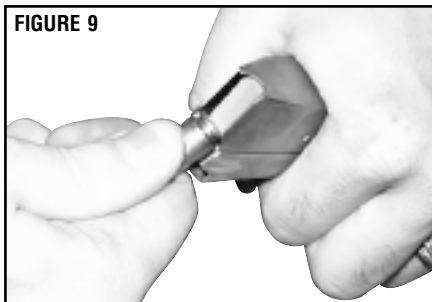

FIGURE 9
- Load the magazine by pressing a cartridge head (rear of cartridge) downward on the forward portion of the magazine follower (or downward on the case of the previously loaded cartridge) and sliding the cartridge fully under the lips of the magazine until the cartridge head is against the rear wall of the magazine. (Figure 9) Repeat the procedure for the number of cartridges you wish to load, up to the magazine capacity. Do not attempt to load your magazine with more than the specified number of cartridges because doing so can cause a feeding failure.